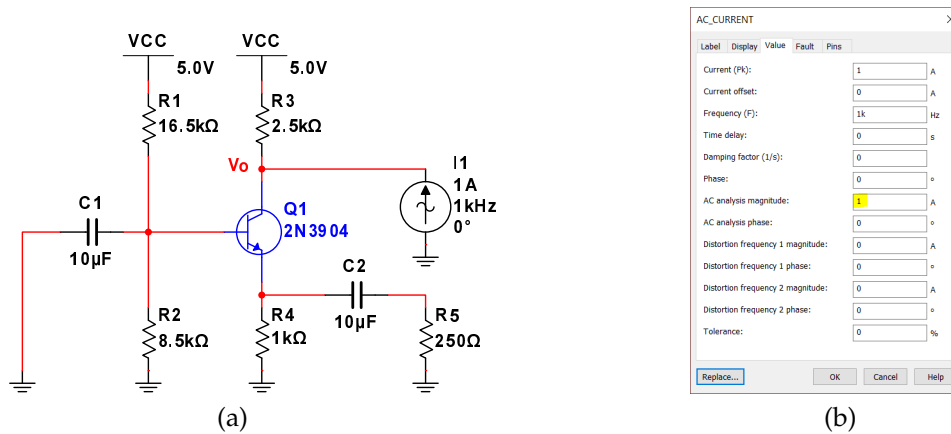

Figure 10: (a) Amplifier circuit for R_o simulation (b) AC current source properties
- Remove the input voltage source, insert an AC current source and connect it to the V_o node as in Fig. 10(a)
- Make sure that the "AC analysis magnitude" of the AC current source is set to 1 as in Fig. 10(b)